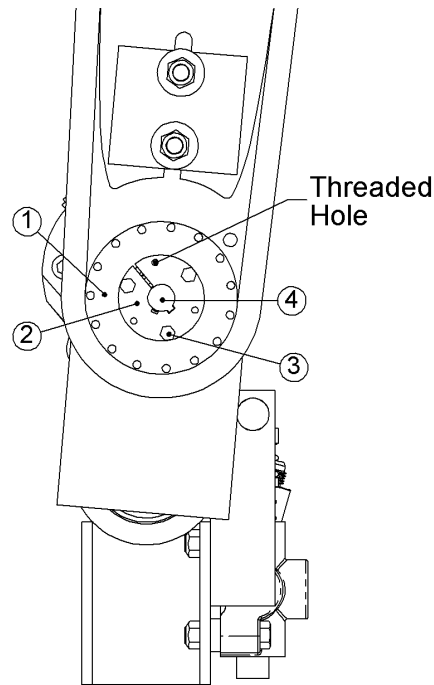

Fig. 6
The chain saw sprocket is connected to the shaft with a tapered bushing. To remove the sprocket remove the Cap Screws (Fig. 6, Item 3) and screw them into the Threaded Holes, tighten up to 36 inch pounds to push the Sprocket (Fig. 6, Item 1) off the Bushing (Fig. 6, Item 2). You may need to tap the Sprocket towards the motor with a hammer to assist in getting the Sprocket loose from the Bushing. Lightly drive a flat blade screwdriver into the slot of the Bushing.
Pry between the Bushing and the Sprocket to get the Bushing off the shaft. Watch that the Drive Key (Fig. 6, item 4) does not get lost.
To install the Sprocket, slide the Sprocket (Fig. 6, item 1) over the motor shaft, slide the Bushing (Fig. 6, item 2) onto the shaft with the Drive Key (Fig. 6, item 4) aligned. Position the sprocket groove offset towards the motor about the width of the bar groove with the Bushing just contacting the Sprocket. Insert the Cap Screws (Fig. 6, item 3) through the large hole in the Bushing and screw them into the threaded holes of the Sprocket. Torque the Cap Screws (Fig. 6, item 3) to 36 inch pounds. Check to make sure the sprocket groove is aligned with the bar groove. If the alignment is not correct, remove and replace the sprocket and bushing and adjust the position before tightening the cap screws.